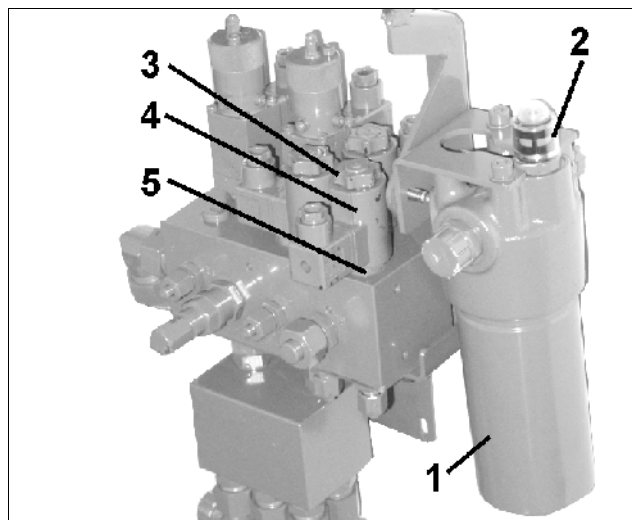

Fig. 59
During operation the function of the hydraulic oil filter (Fig. 59/1) can be checked on the control block. Indication in the check window (Fig. 59/2):
- Unscrew solenoid cap (Fig. 59/3).
- Remove magnet coil (Fig. 59/4).
- Screw out the valve rod (Fig. 59/5) with valve seat and clean with compressed air or hydraulic oil.